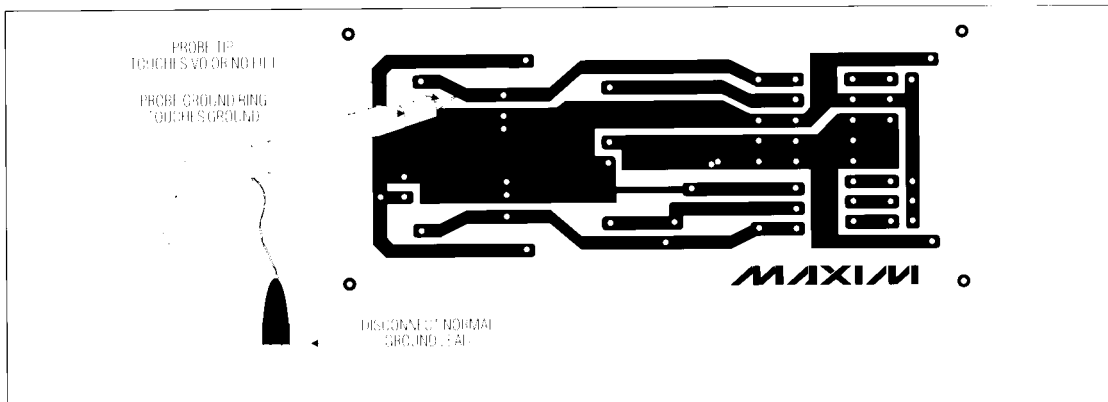

Figure 8 Noise Measurement
5. Noise: Real or Not? A very short scope probe ground lead **must** be used to eliminate induced switching noise unless the board is placed in a shielded enclosure. Many probes have a ground ring near the tip (underneath the probe tip cover) normally used to insert the tip into a BNC jack. Place the probe so this probe ground ring touches the filter capacitor ground lead while the probe tip touches VO (Figure 8). Also, ground noise can often be reduced by connecting the case (earth) ground of the +5V source to circuit ground.